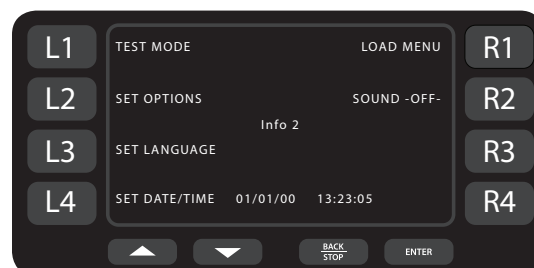
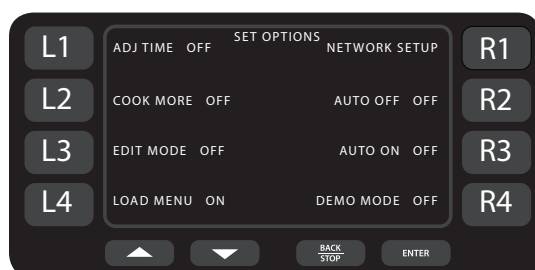

Figure 13: Info Mode Screen 2
Figure 14: Set Options Screen
From screen 2 of the Info Mode (Figure 13):
From screen 2 of the Info Mode (Figure 13), press the L3 soft key to scroll through available languages. Each time L3 is pressed, a different language is selected in the following order: English (default), Spanish, French, German, Portuguese, Italian, Russian, Greek, Polish.
From screen 2 of the Info Mode (Figure 13, page 11), press the L2 soft key to access the Set Options screen (Figure 14). When prompted, enter the password 9 4 2 8 and press the Enter key.
From screen 2 of the Info Mode (Figure 13, page 11), press the L4 soft key to access the Set Date/Time screen (Figure 15). From this screen, the real time, “auto-on” time, and “auto-off” time can be set.
An accurate real time is critical for using “auto-on” and “auto-off.” When these features are enabled from the Set Options screen (Figure 14), the oven automatically turns on and/or off at the specified times.
IMPORTANT: For auto-on and auto-off to be active, they must be enabled from the Set Options screen (Figure 14).
1. Go to screen 2 of the Info Mode (Figure 13, page 11).
1. Enable it from the Set Options screen (Figure 14, page 12).